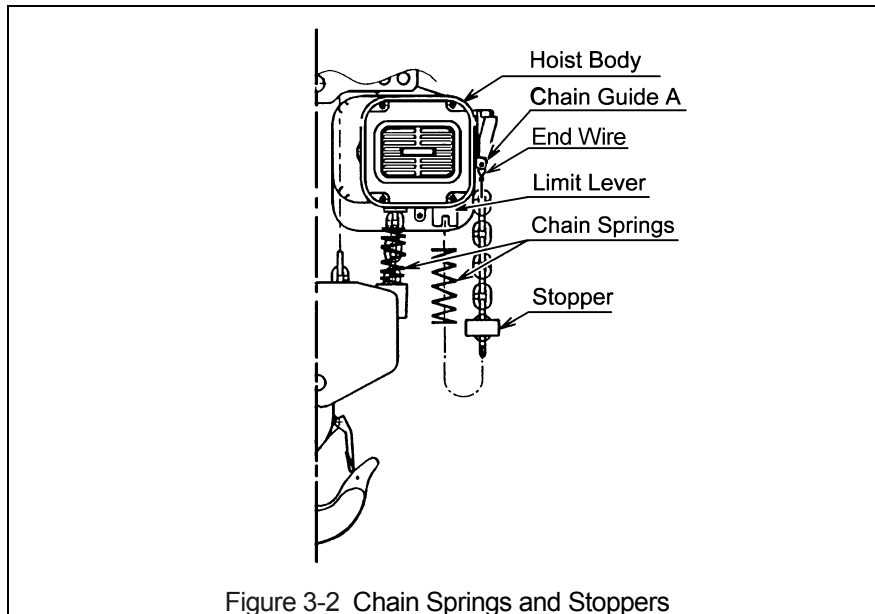

Figure 3-2 Chain Springs and Stoppers
- 3.2.2 When the hoist is used without a chain container, the free end of the chain is attached to the hoist body as shown in Figure 3-2. Connect the "no load" end of the chain to Chain Guide A with an End Wire and the pre-installed socket bolt and lock nut. Make sure the chain remains free of twists and the chain Stopper is installed on the correct link. Refer to Table 3-2 for proper placement of Stopper.
- 10) Connect the end link of the new chain to the chain holder with the Chain Pin and Snap Ring. Ensure that the chain remains free of twists. Attach the remaining chain components to the chain referring to Section 3.2 for the proper locations. For hoists without a chain container, attach the no-load side of the chain to Chain Guide A with the End Wire, socket bolt and lock nut. See Figure 3-2.
- 12) For hoists without a chain container, attach the ends of the chain to Chain Guide A on each body with an End Wire, socket bolt and lock nut (see Figure 3-2). Ensure that all chain parts remain free of twists and correct any if found.